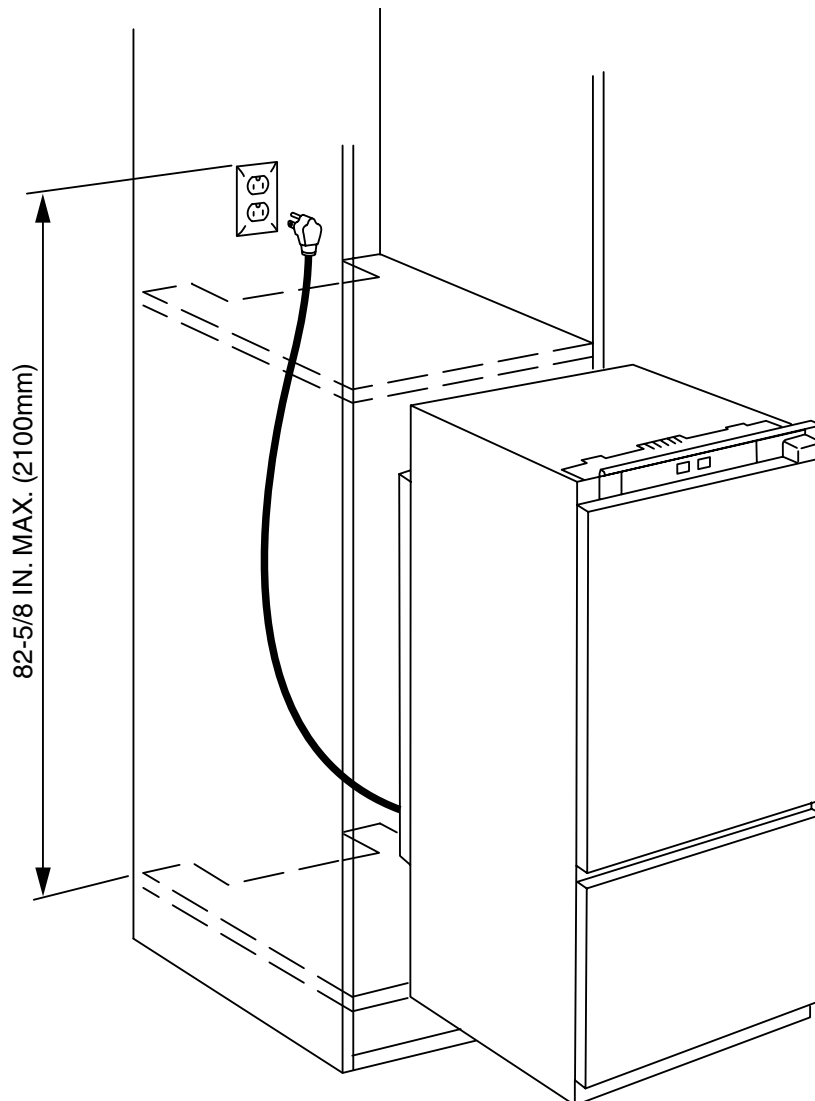

Figure 2
The top of the electric outlet must be located within 82-5/8 in. (2100 mm) (Figure 2) from the top of the base in the cabinet.
- ① Fish line for power cord
- ② Level
- ③ Electrical Outlet, The top of the electric outlet must be located within 82-5/8 in. (2100 mm) (Figure 2) from the top of the base in the cabinet.
- ④ Place shims under appliances as necessary
- ⑤ Upper cabinet spacer for 24 in. (610 mm) cabinet width (dimension "E") ONLY
- ⑥ Lower cabinet spacer for 24 in. (610 mm) cabinet width (dimension "E") ONLY
- ⑦ Kitchen Cabinet Hinge